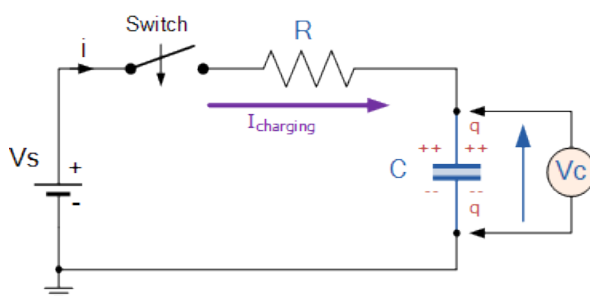

Fig.1
The Figure 1 below shows a capacitor, (C) in series with a resistor, (R) forming a **RC Charging Circuit** connected across a DC battery supply (V_s) via a mechanical switch. When the switch is closed, the capacitor will gradually charge up through the resistor until the voltage across it reaches the supply voltage of the battery. The manner in which the capacitor charges up is also shown in Figure 1.